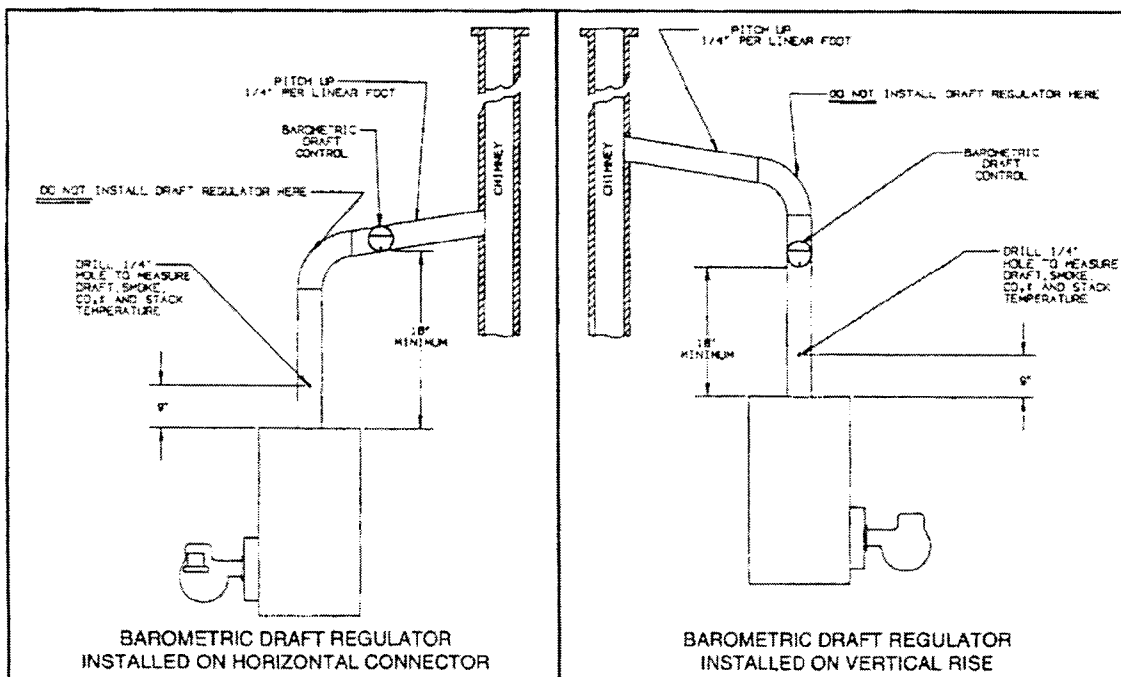

Figure 3.
- G. Flue Connection: Connect flue pipe between top of boiler and chimney. Horizontal sections of flue pipe must be pitched upward to the chimney at least 1/4" per foot. Flue must be inserted into, but not extend beyond, the inside wall of the chimney flue. Install draft regulator in flue pipe, as shown in figure 3.